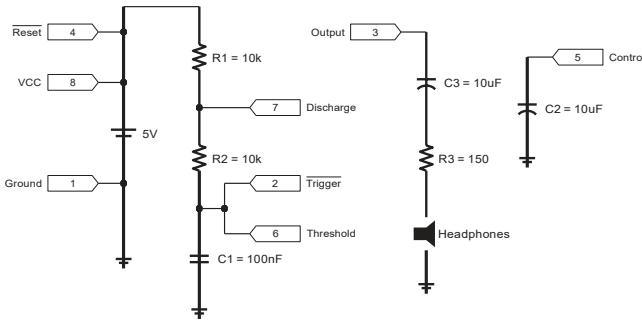
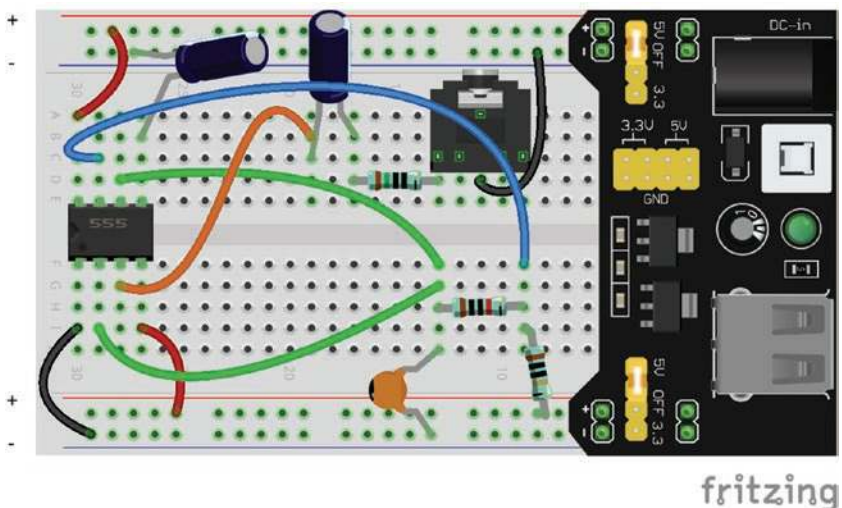

Figure 19-3. Schematic for a Simple 555-Based Tone Generator
Figure 19-4. Breadboard Layout for a 555-Based Tone Generator
In this section, we are going to modify the circuit in Figure 18-2 to add in a headphone output. Figure 19-3 shows the final circuit, and Figure 19-4 shows how to build it. This circuit has several changes to our original circuit that we will discuss in this section.
4. Given the circuit in Figure 19-3, what power would be delivered to your headphones if you were using an $8\ \Omega$ speaker instead of the $16\ \Omega$ speaker? What about a $100\ \Omega$ speaker?